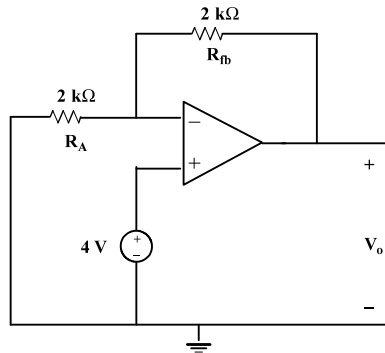

Figure 3.10 Laboratory circuit for noninverting operational amplifier, Part 2LE.
- (a) Construct the circuit shown in Figure 3.10.
- (c) Change R_{fb} to zero. Keep all other circuit values as in Fig. 3.10. Measure and record V_o .
- (d) Change R_A to infinity. Keep all other circuit values as in Fig 3.10. Measure and record V_o .